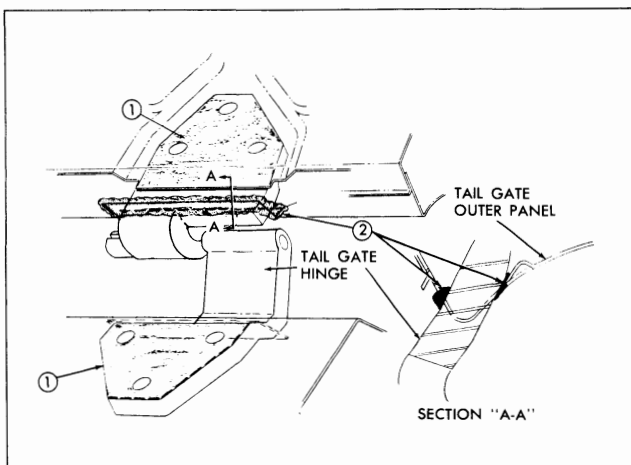

Fig. 5-9 Tail Gate Hinge
1. To install, reverse removal procedure. Prior to installation clean off old sealer from hinge straps and apply a coat of heavy bodied sealer to attaching surface of hinge straps (Fig. 5-9).
2. Apply body caulking compound between hinge strap and hinge strap opening in tail gate panels (Fig. 5-9) to effect a watertight seal.
4. To install tail gate hinge, reverse removal procedure. Prior to installing hinge, coat attaching surface of hinge with heavy-bodied sealer (1 in Fig. 5-9). Install tail gate assembly as described under TAIL GATE INSTALLATION.